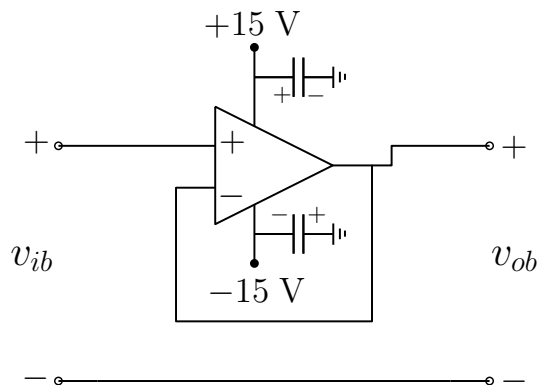

Figure 8.1: The voltage follower.
1. Build the voltage follower shown in Figure 8.1. The $-$ line is simply the ground. The capacitors running from the +15 V and -15 V lines to ground are called *coupling capacitors*. They filter out any AC component of the signal, and ensure that the voltage supplied to op-amp is steady.